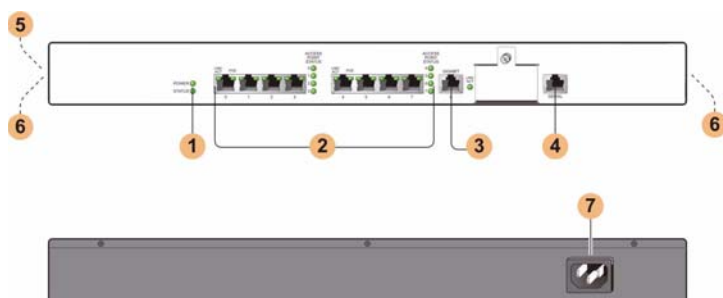

Figure 1-1
The standard version of the WFS709TP ProSafe Smart Wireless Switch contains a 1000BASE-T copper Gigabit Ethernet (GE) connector. Figure 1-1 shows the front and rear views of the switch.